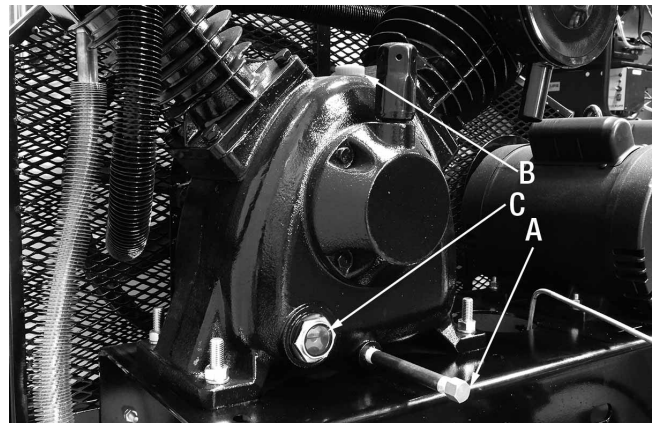

FIGURE 11
To change oil, oil must be drained from the crankcase by removing oil drain bolt (A) Fig.11. Drain oil and replace oil drain bolt. To fill the crankcase with oil, first unscrew and remove oil fill cap (B), pour air compressor oil (approx. 1.9 litres of SAE 30 weight non-detergent oil) into oil opening until the oil level reaches the red dot at the centre of the oil sight glass (C). Reinstall the fill cap (B).